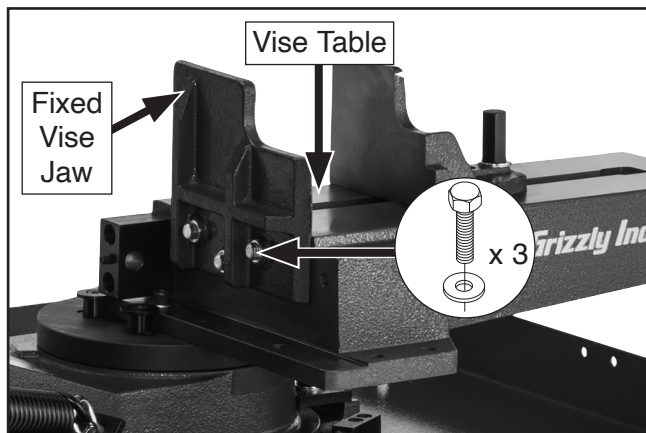

Figure 53. Vise table components.
3. Remove (3) hex bolts and flat washers to remove fixed vise jaw from end of vise table (see **Figure 53**).